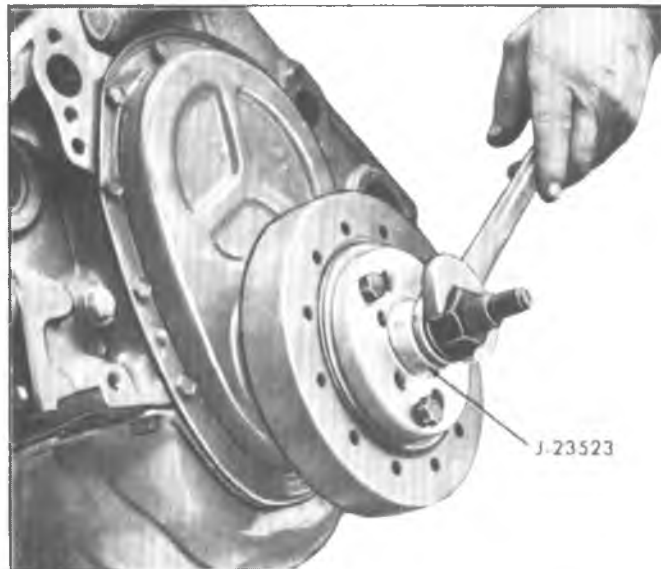

Fig. 15V—Installing Torsional Damper
- c. Pull damper into position as shown in Figure 15V.